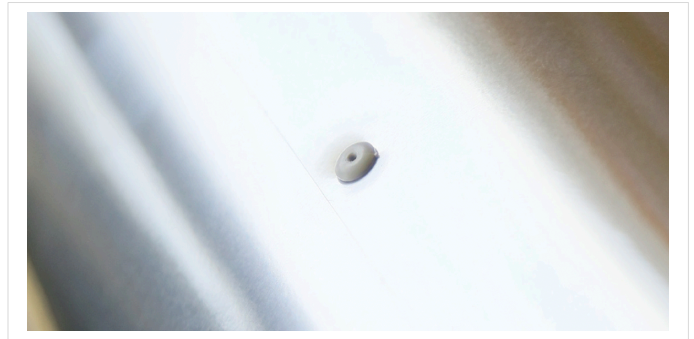

Fig. 2
- Place rivet onto the Puncher and push through the hole until fixed in place, **Fig 2**.